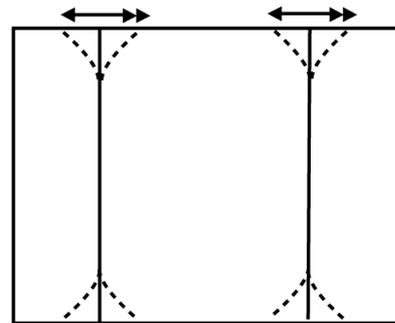

Fig. 3b
3. Confirm the center vertical line to straight as in fig. 3b if needed adjust Bow.